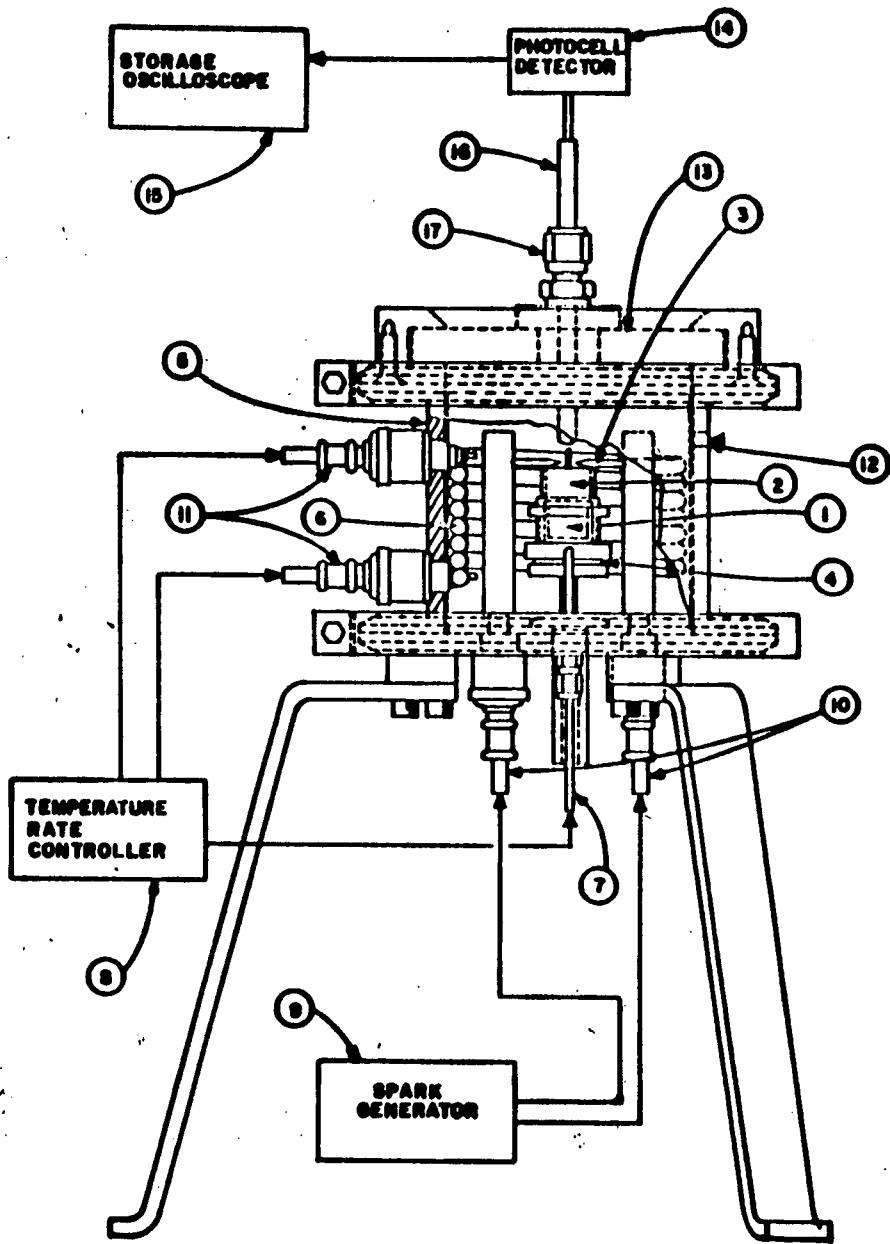

Figure 1 WSTF Flash and Fire Point Test Apparatus and Control System
A diagram of the flash and fire test apparatus is shown in Figure 1. The test apparatus has an internal volume of approximately 0.5 liter and holds the specimen in an aluminum specimen cup (1). A glass chimney (2) is used between the cup and the spark electrodes (3) to prevent spark arc over to the cup. The chimney is also used to direct the specimen off-gas products past the spark electrodes. The height of the electrodes is adjustable to maintain the electrodes 0.75 + .025 inches above the specimen. The spark electrodes are freshly sharpened for each test and adjusted to a spark gap of 0.062 + .01 inch. An asbestos washer (4) prevents heat sinking of the specimen by the stainless steel test chamber (5). A 1500 watt heater (6) is coiled around the cup and is insulated from the test chamber with an asbestos liner. A dual element thermocouple (7) monitors the cup temperature and provides the control temperature signal to the temperature rate controller (8). The spark generator (9) applies the
1. Place sample in aluminum specimen cup (refer to Figure 1).